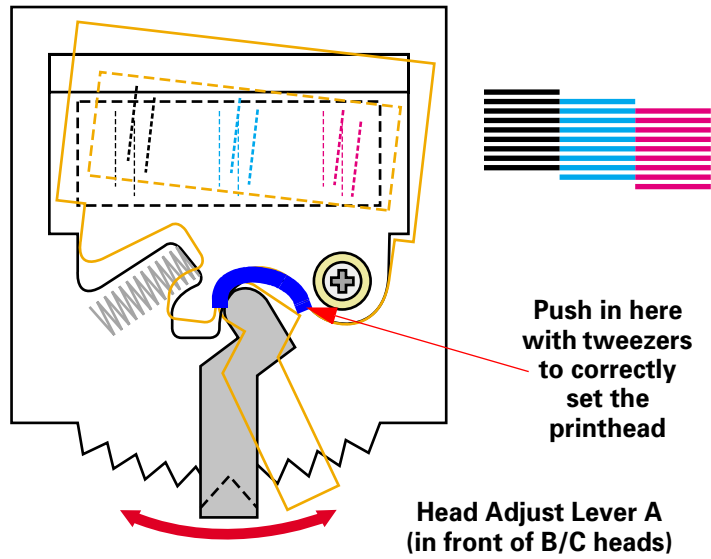

Figure 5-21. B/C Head Skew Adjust Lever
3. Loosen the screw securing the head that is printing at a slant, and move the Head Adjust Lever A left or right depending on the slant direction. See Figure 5-21 for reference.